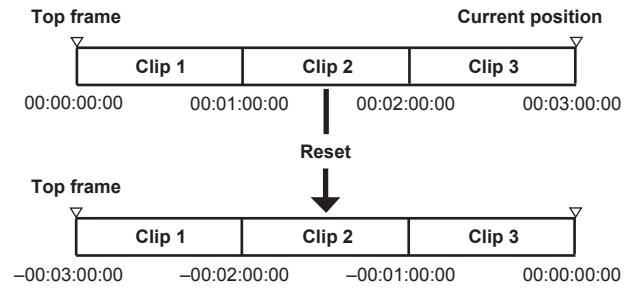

Fig. 2
- When the playback CTL counter value is reset, the current playback position is taken as 0, and the location that was the reference location becomes a minus number value. (Fig. 2)